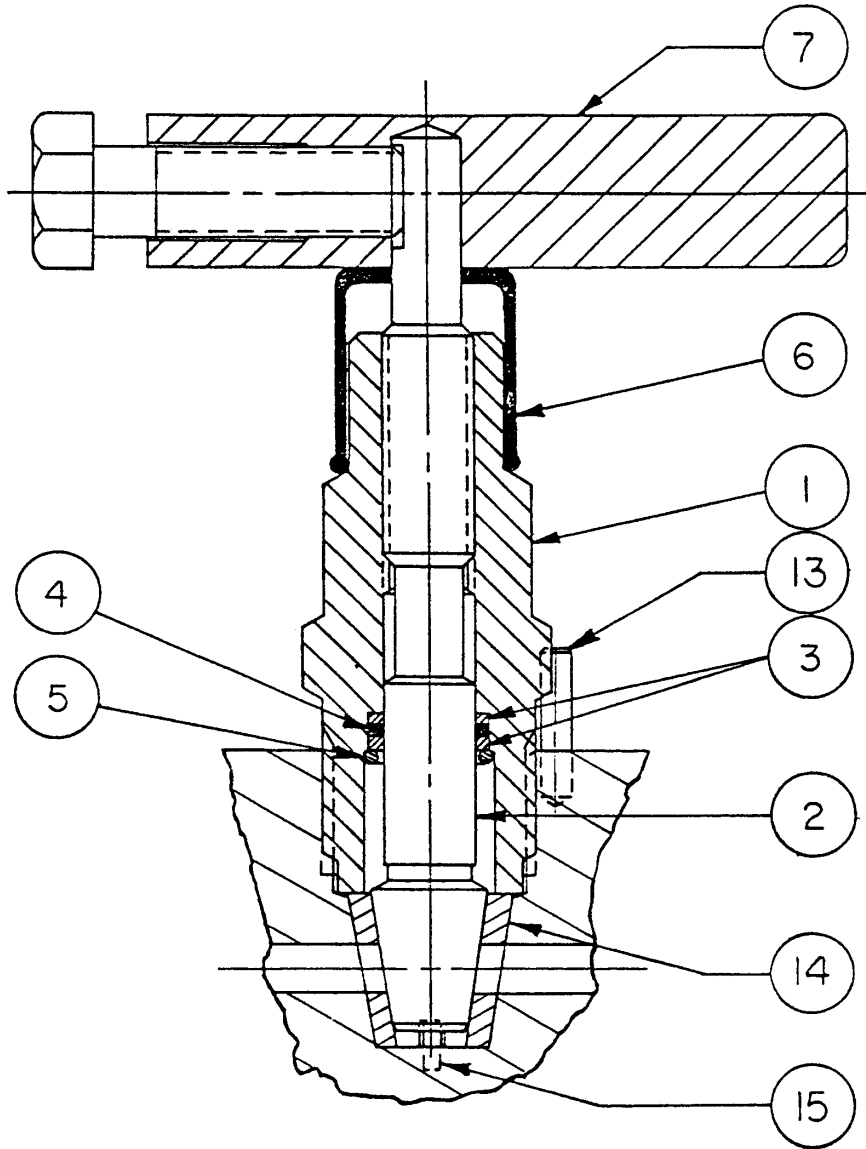

FIGURE 1
- a. Refer to Figure 1 for parts identification.
- b. Remove bonnet lock pin (item 13) from the valve body by using heavy duty pliers or wire cutters.
- d. Remove handle (item 7) by loosening handle bolt.
- e. Remove dust boot (item 6) from the bonnet (item 1).
- f. Remove stem (item 2) from bonnet by screwing it downward.
- g. Remove the retaining ring (item 5), two back-up rings (item 3) and O-ring (item 4) from the bonnet (item 1).
- j. Install one of the back-up rings (item 3), new O-ring (item 4), the other back-up ring (item 3), & retaining ring (item 5) onto the bonnet (item 1).
- a. Refer to Figures 1 and 2 for part identifications.
- d. Remove seat (item 14) from seat cavity. The seat may be removed from the seat cavity with any smooth surfaced bar used as a pry bar inserted into one of the orifice holes in the seat.
- g. Make sure that indexing pin (item 15) is still securely installed into the hole in the bottom of the seat cavity.
- h. Install new seat (item 14) making sure that the notch in the side of the seat is centered over the indexing pin (item 15).
- k. Install bonnet lock pin (item 13) into one of the holes in the body that one of the bonnet hex best centers over.